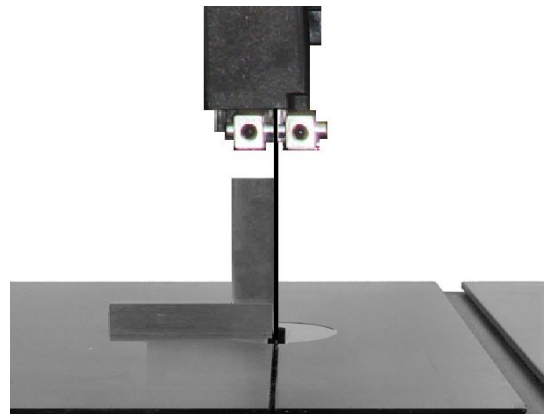

Fig 8
- Using a combination square, set table perpendicular to blade. Adjust table stop if necessary (Fig 8)